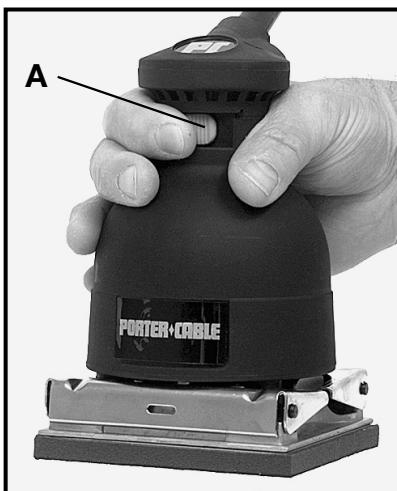

Fig. 3
**WARNING** Make sure switch (A), Fig. 3, is in “**OFF**” position.
3. While holding sander firmly and off of work surface, slide switch (A), Fig. 3, to the “**ON**” position.
5. When you are finished sanding, lift sander up off work and slide switch (A), Fig. 3, to the “**OFF**” position to stop sander.
The Porter-Cable Finishing Sander has been designed for one-hand operation (Fig. 3). Because it is light in weight, vibration-free and perfectly balanced, the sander can be easily guided over the work surface with one hand. The normal weight of the machine is sufficient for efficient sanding. Do not put additional pressure on the machine. This would only slow down the speed of the pad, reducing the sanding efficiency and put an additional burden on the motor. In addition, it might cause the sander to jump on the work. Let the sander do the work.